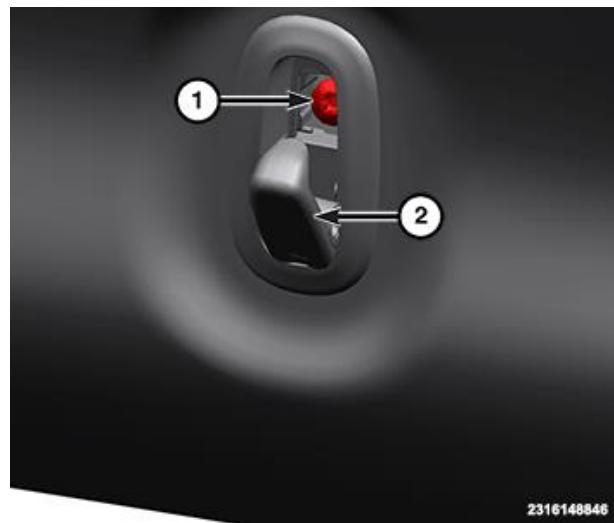

Figure 7 – Coat Hook Screw
12. Remove screws (1) and remove coat hook assemblies (2) (Figure 7).